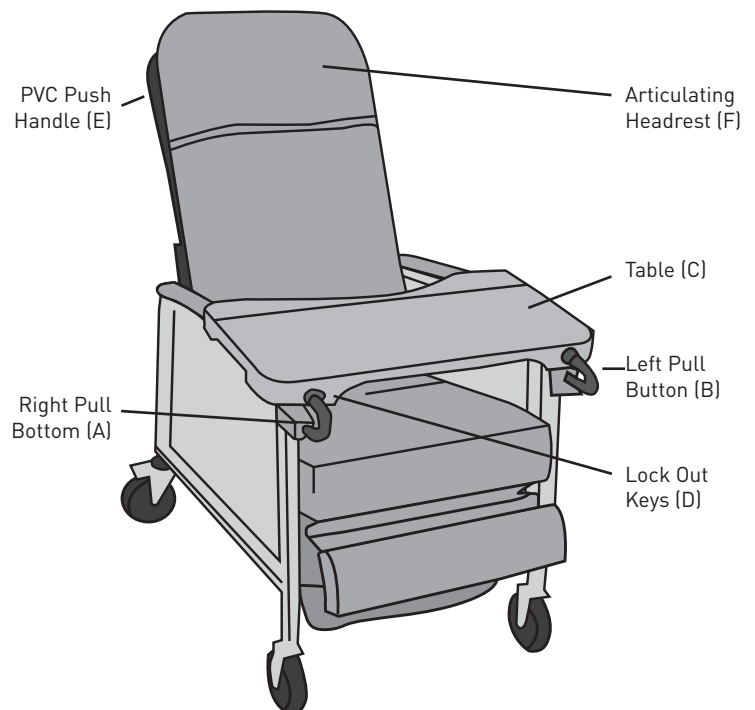

Figure 2
1. Underneath each arm, pull down and hold pull button (Fig.2 A& B) and slide lockout keys forward on both sides (D).